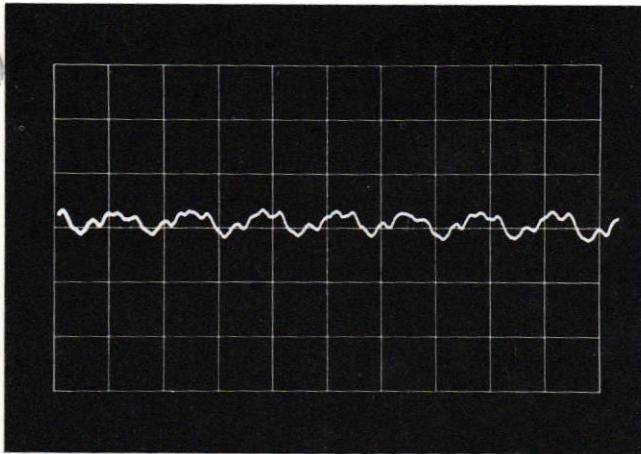

Fig. 6-5. Typical ripple on + 16 volt supply at 500  $\mu$  volts/cm.
c. Adjust R157 for minimum ripple. Fig. 6-5 shows a typical ripple display at 500  $\mu$ V/cm.